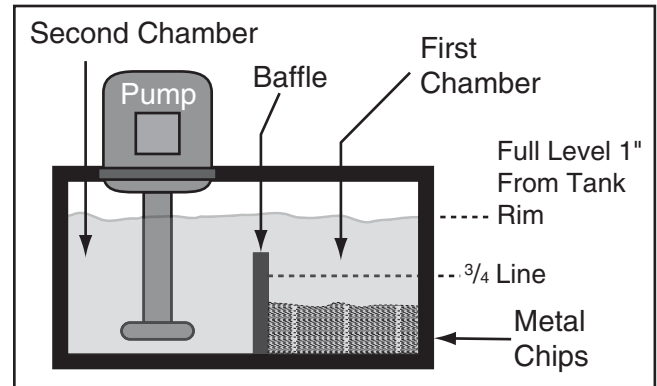

Figure 94. Diagram of cutting fluid tank.
4. Using a wooden stick, check the level of the metal chips in the first chamber (see **Figure 94**). If the chips are 3/4 the height of the baffle, then remove the chips.